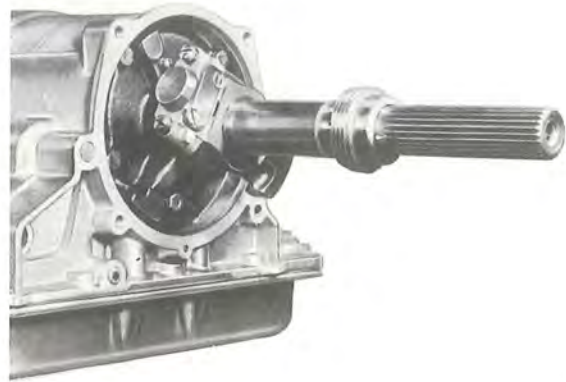

Fig. 4-116. Installing speedometer gear
22. Place the speedometer gear correctly on the driven shaft as shown in Fig. 4-116. Fit the extension housing with a new gasket and fit the drive flange with washer and nut.